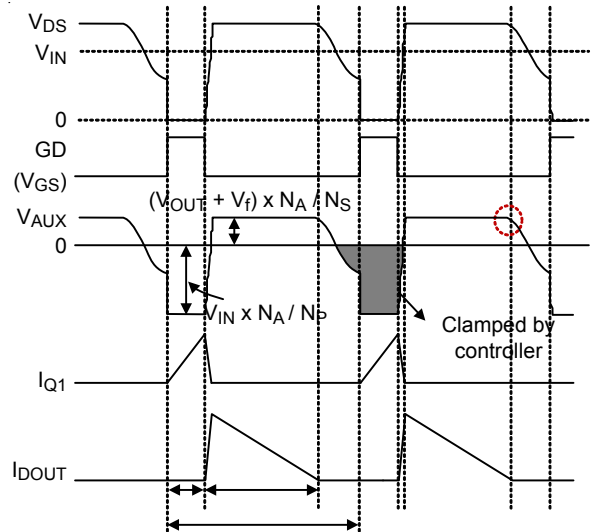

Figure 3. Key Waveforms of a Flyback Converter
The RT7304 needs no shunt regulator and opto-coupler at the secondary side to achieve the output current regulation. Figure 3 shows several key waveforms of a conventional flyback converter in Quasi-Resonant (QR) mode, in which  $V_{AUX}$  is the voltage on the auxiliary winding of the transformer.